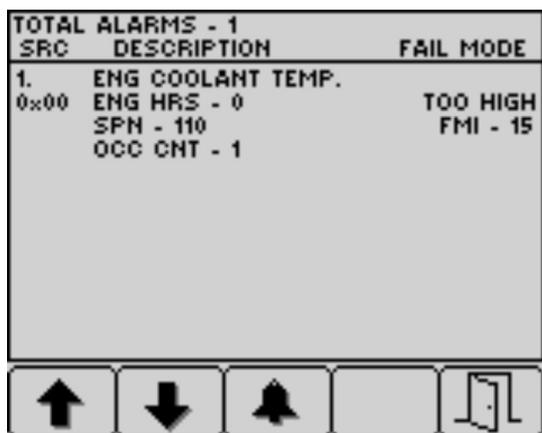

Figure 36
4. Press button 5 to exit the active fault list and return to the home screen (Figure 36).
5. Press button 5 to exit the active fault list and return to the home screen; refer to Figure 36 in Engine Advisories Messages (page 33).